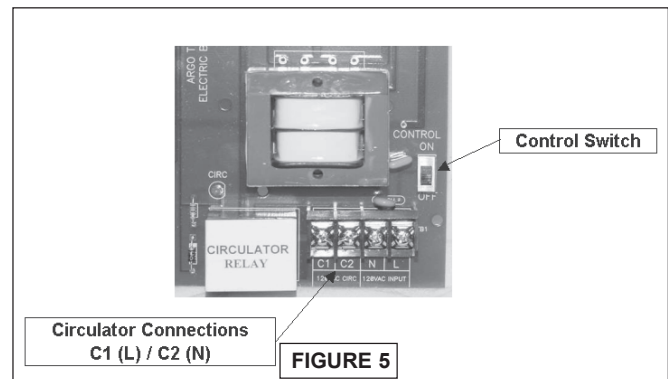

FIGURE 5
3. CIRCULATOR POWER SUPPLY: Terminals identified as C1(L) and C2(N) at the bottom of the control panel (*Figure 5*) may be used to supply one circulator pump power. The circulator motor shall not be larger than 1/6 horsepower with a maximum 5.0 amp rating. Wiring from the control panel to the pump should have insulation rated at 75°C. Circuit protection is provided by a 15 amp breaker or fuse (depending on option) on the control board.